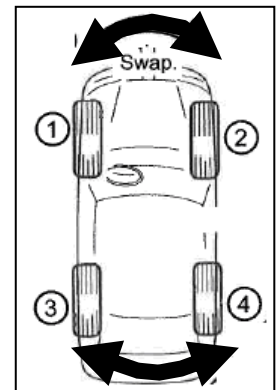

Figure 2
- b. Rotate tires 1 and 3 on the driver side (Figure 2) and road test.